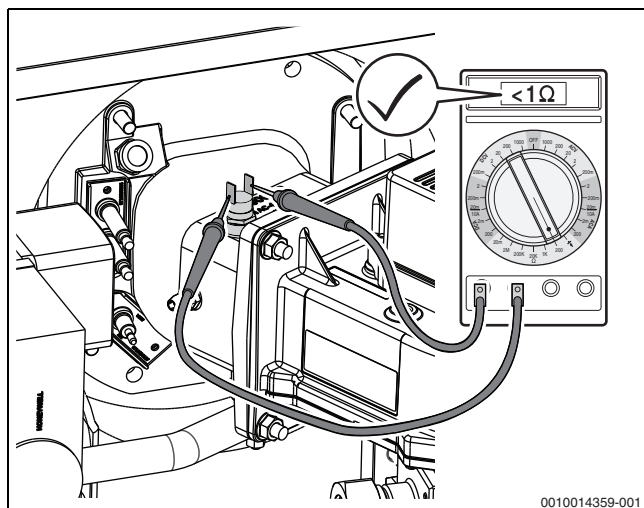

Fig. 64 Measure the electrical resistance across the contacts of the temperature switch (temperature switch ok)
- ▶ Measure electrical resistance across the contacts of the temperature switch (→ Fig. 64).